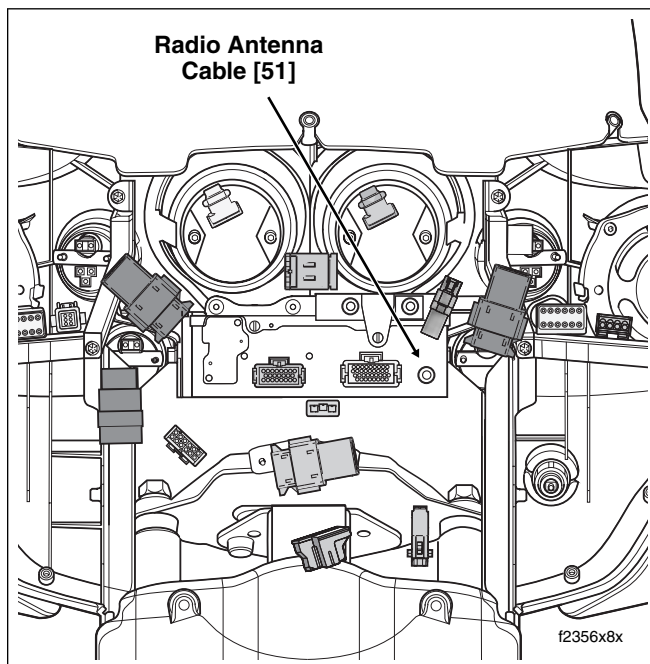

Figure 8-180. Remove Outer Fairing (FLHX, FLHTC/U)
5. Remove radio antenna cable connector [51] at back of radio (left side). See Figure 8-180. Carefully cut cable where it exits main harness conduit.
1. At front of inner fairing, connect radio antenna cable connector [51] at back of radio (left side). See Figure 8-180.